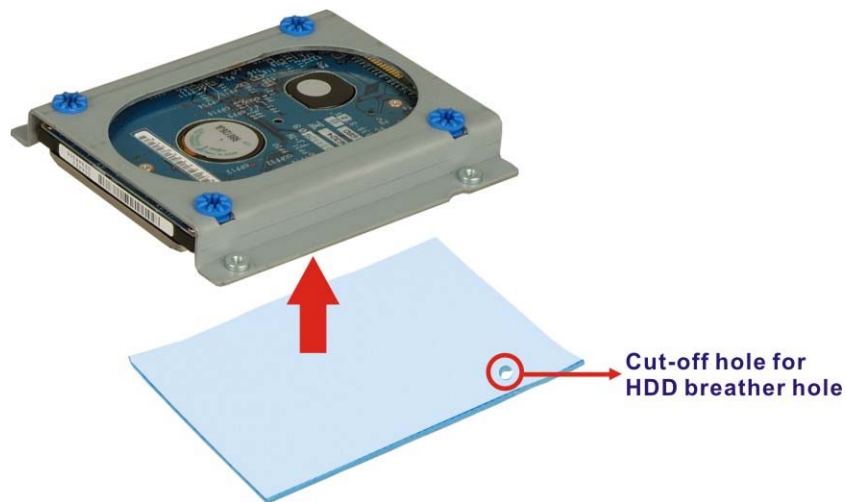

Figure 4-5: HDD Thermal Pad
Step 7: Adhere the thermal pad to the HDD. Make sure there is no obstacle covering the breather hole (**Figure 4-5**).